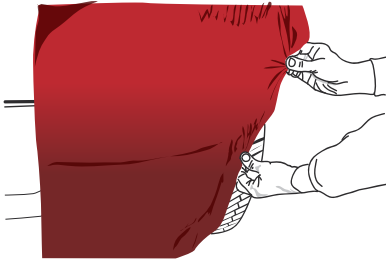

Figure 25
- › Stretch the vinyl over the flat part. (FIG. 25)